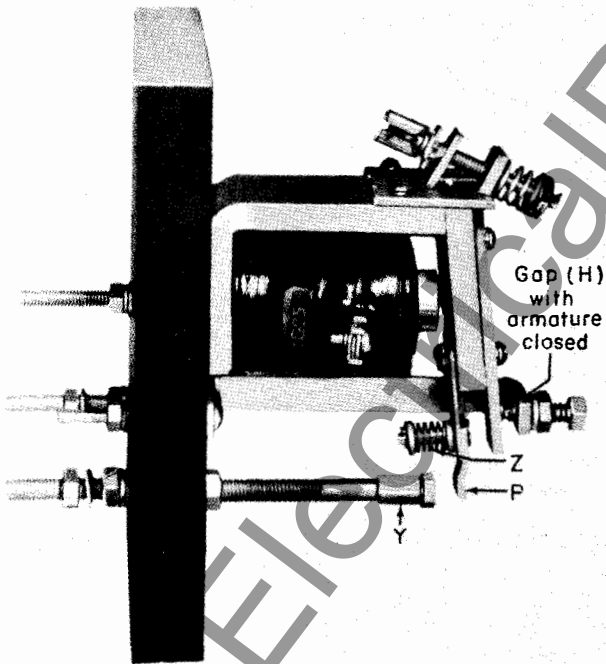

Fig. 1. CR2820-1054A relay with normally closed butt-type contact and normally open finger-type contact (P)
For the CR2820-1054B relay, the armature back-stop screw is normally adjusted at the factory to give a gap of $\frac{1}{16}$ -inch at (G), Fig. 2, with the armature closed. For the CR2820-1054A relay and for other forms without magnetic blowouts, gap (H), Fig. 1, should be $\frac{1}{4}$ -inch. For CR2820-1054 relays with magnetic blowouts and arc chutes, this gap is usually